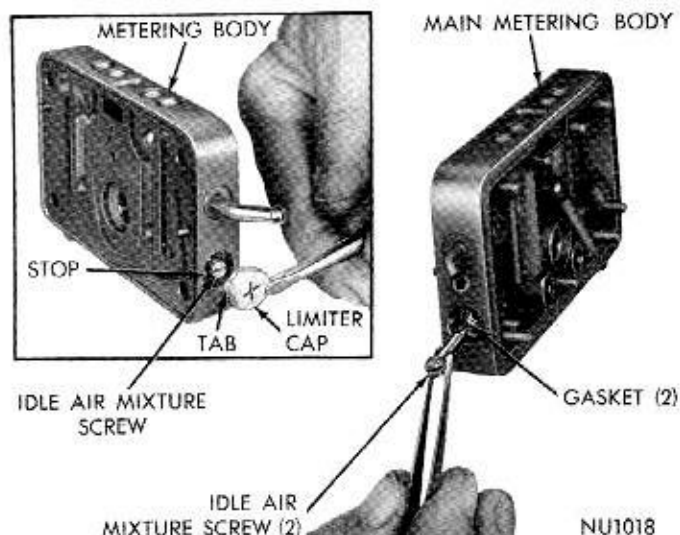

Fig. 19—Installing Idle Air Mixture Screws and Gaskets
driver. Lightly seat screws, then back off number of turns (from seat) counted at disassembly (Fig. 19).
(4) Install new plastic caps over idle screws, with tabs on caps against stops in bore (Fig. 19).